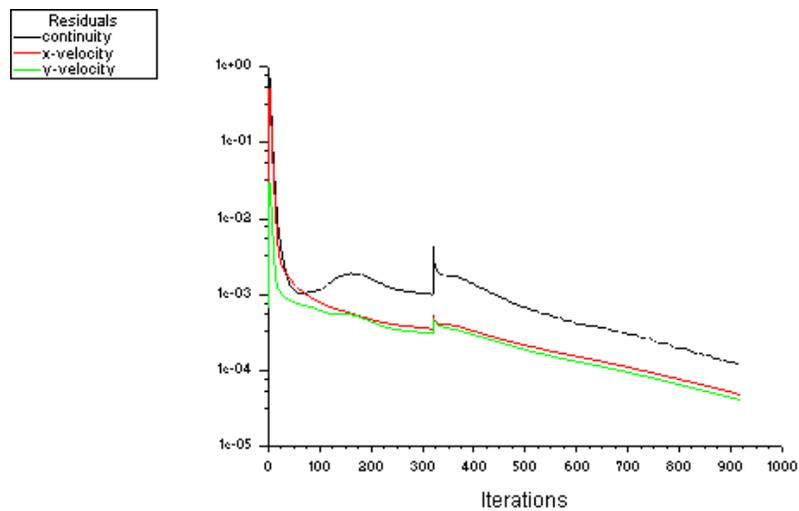

Figure 1.6: Scaled Residuals
11. Iterate the case till convergence criteria is met (Figure 1.6).